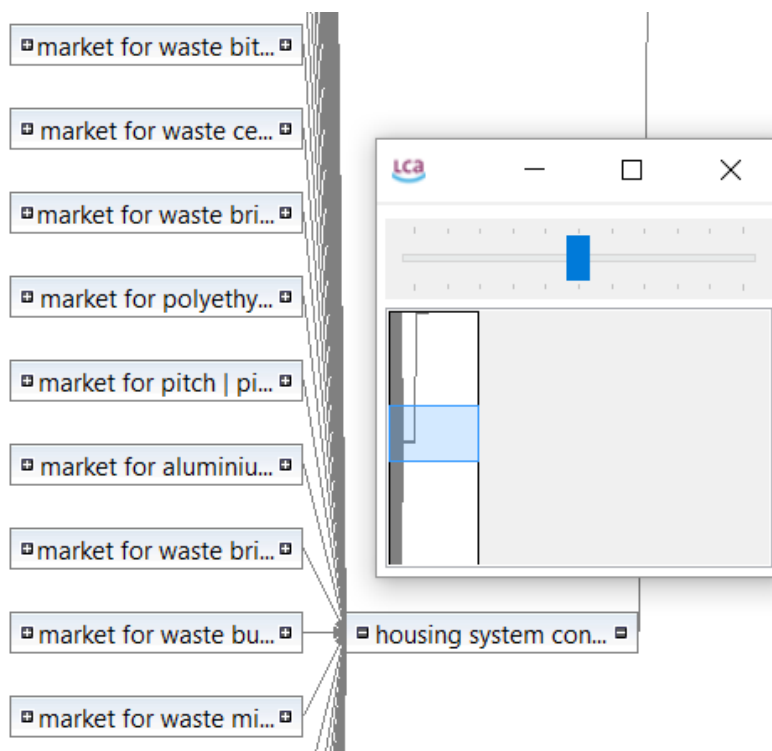

Figure 86: Model graph - miniature view
- Open miniature view (useful for navigating your way around complex model graphs by giving a miniature overview of the model graph. The blue area represents the current view (see Figure 86).